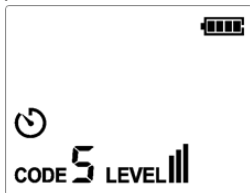

Figure 9.1.1a
2. The transmitter is in power-on state by default (Transmission is not started by the transmitter), short press the START/STOP button to stop transmission when transmission is started by the transmitter. When the CODE button is short pressed, the CODE symbol flashes for 0.5s, as shown in Figure 9.1.1a.